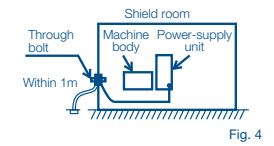

Fig. 4
2. If the EDM cannot be grounded in the shield room, connect the EDM's grounding cable to the shield room's grounding terminal (through bolt) as shown in Fig. 4.